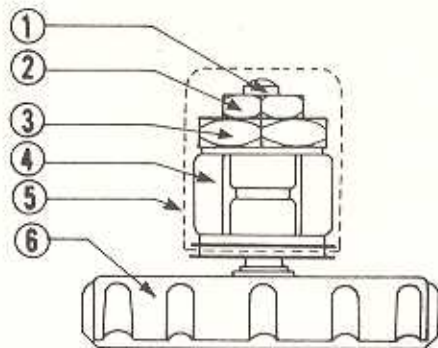
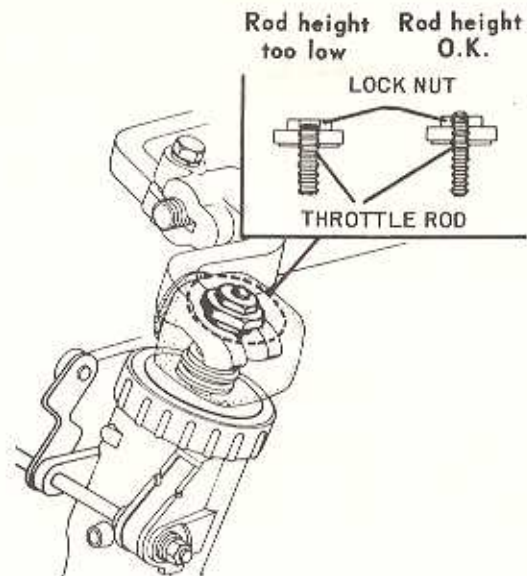

Fig. 4. Throttle Rod Linkage
Fig. 5. Throttle Rod Lock Nut
To synchronize the carburetors, adjust the height of the carburetor throttle rods (Fig. 4) so that all four cylinders will show equal vacuum readings. Make sure that all throttle rods extend at least one thread above the lock nuts (Fig. 5).
- a. Pull back the rubber dust cover to expose the throttle rod linkage (Fig. 4) on the carburetor to be adjusted.
Tightening torque for the lock nut is 10.3-17.3 lb.in. (.86-1.44 lb.ft.). If the lock nut is overtightened or if throttle rod protrusion (Fig. 5) is insufficient, the threads of the throttle rod may strip.